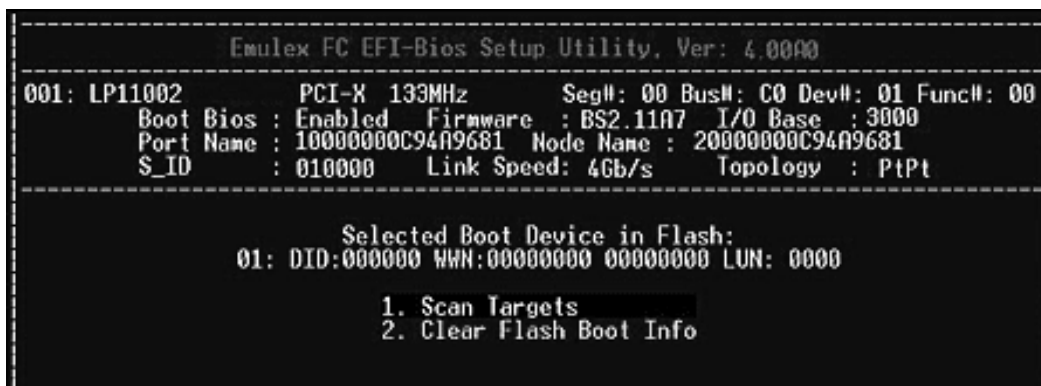

Figure 41: Boot Device Configuration Options menu
2. Select a device row and press <Enter>. The screen shown in Figure 41 displays the selected device row.